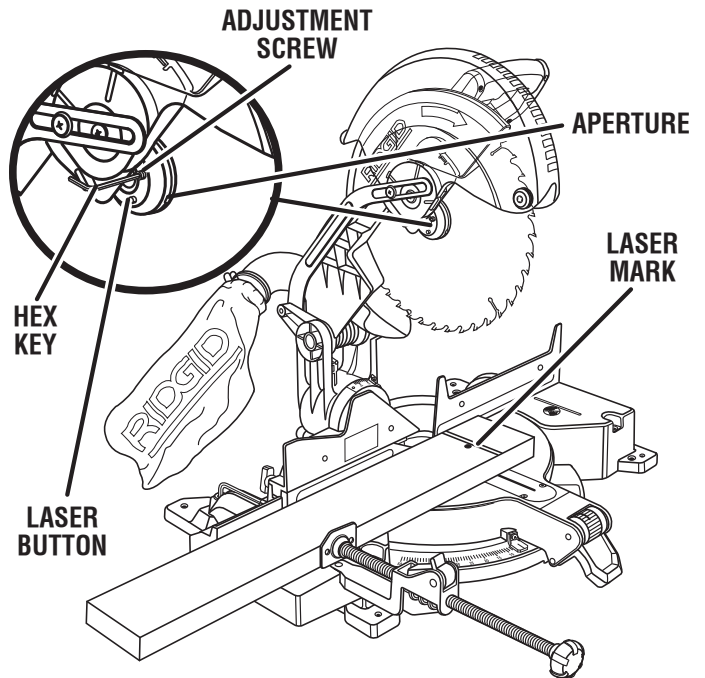

Fig. 37
See Figure 37.
- Rotate the blade by hand until you can push and hold the laser button and the laser mark is near the center of the workpiece as shown in figure 37.
- To adjust the laser, turn the adjustment screw counter-clockwise or clockwise using the hex key (1/16 in.) provided.
- Once aligned, remove and store the hex key (1/16 in.), and lower the blade guard.